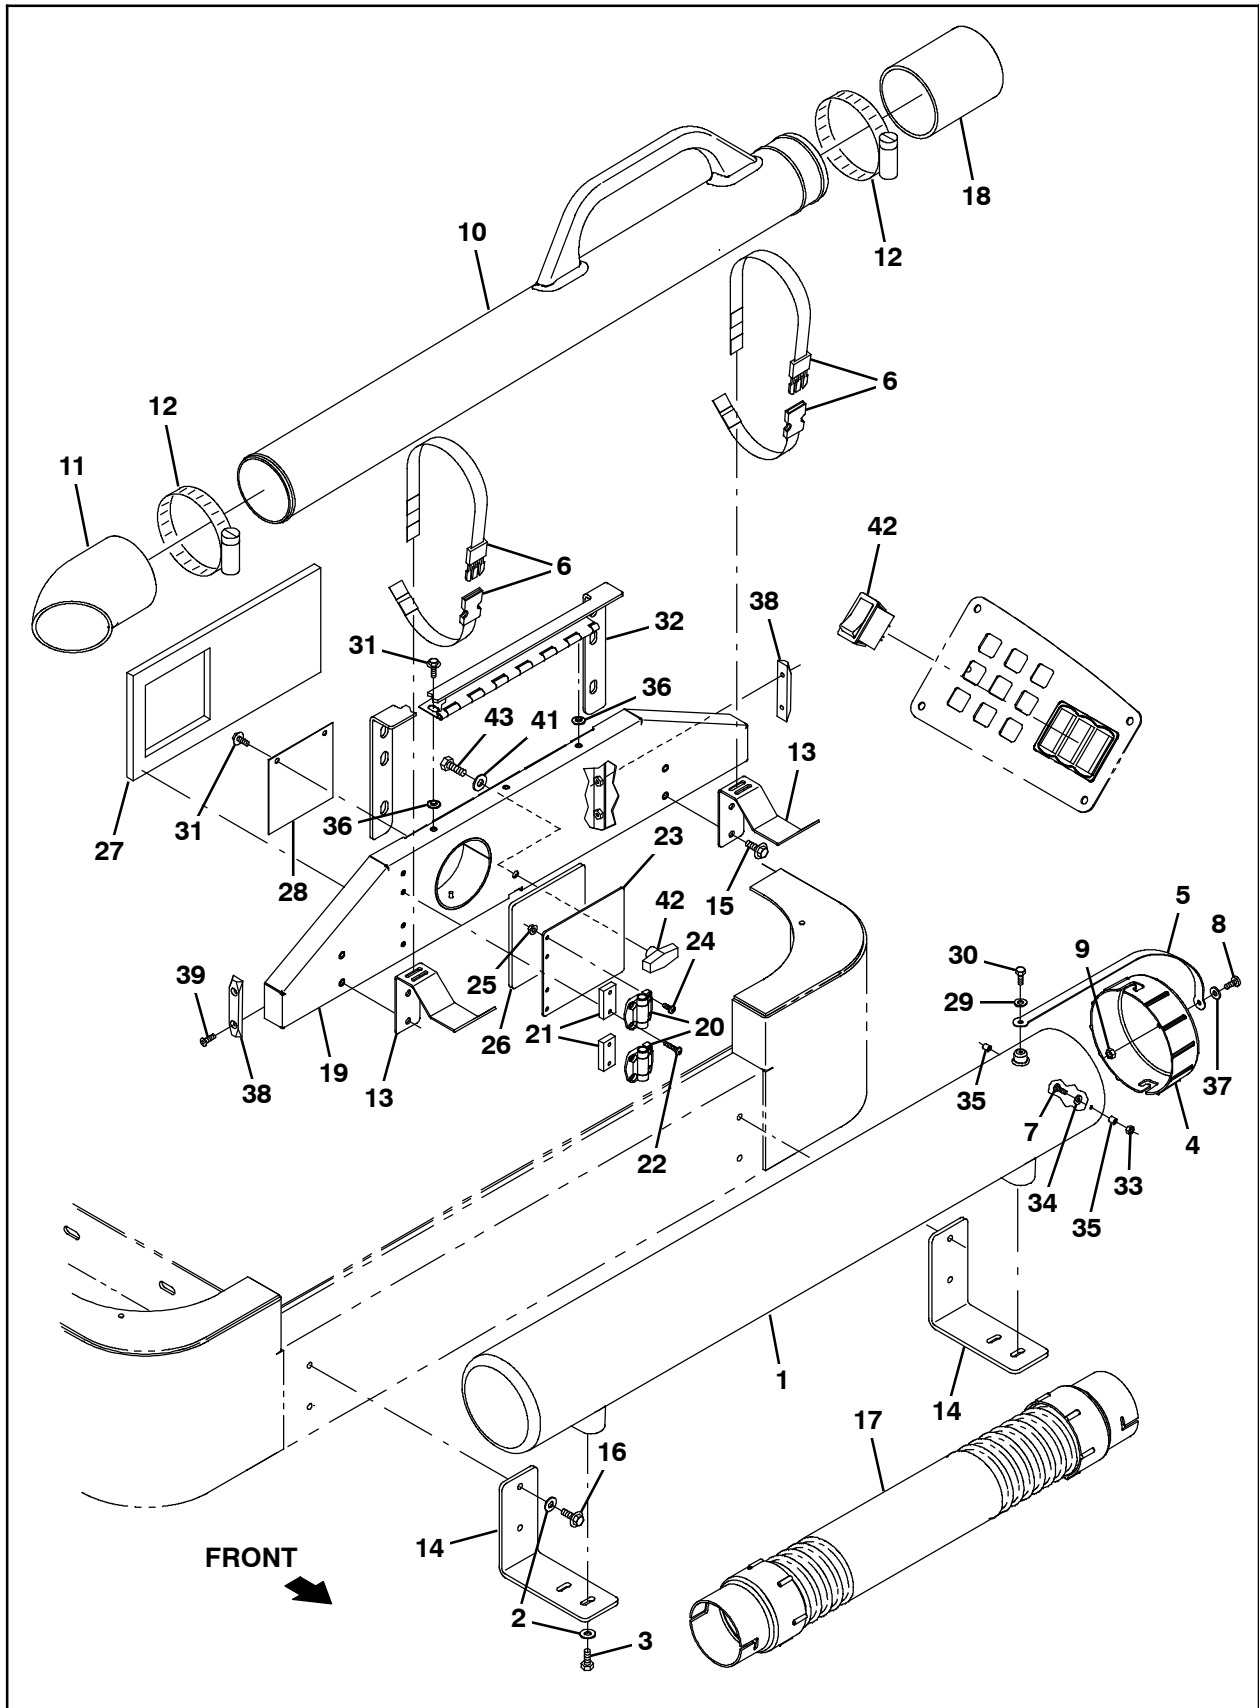

FIG. 5
23. Use two M8 SEMS hex screws (15) to install each wand bracket (13) onto the hopper door (19). (Fig. 5)
24. Install the straps (6) onto each wand bracket (13). (Fig. 5)
25. Use a hose clamp (12) to install the hose nozzle (11) and the hose (18) onto the vacuum wand (10). (Fig. 5)
26. Use the straps (6) to secure the vacuum wand assembly to each wand bracket (13). (Fig. 5)
27. Secure the vacuum hose (17) inside the hose tube assembly (1). (Fig. 5)